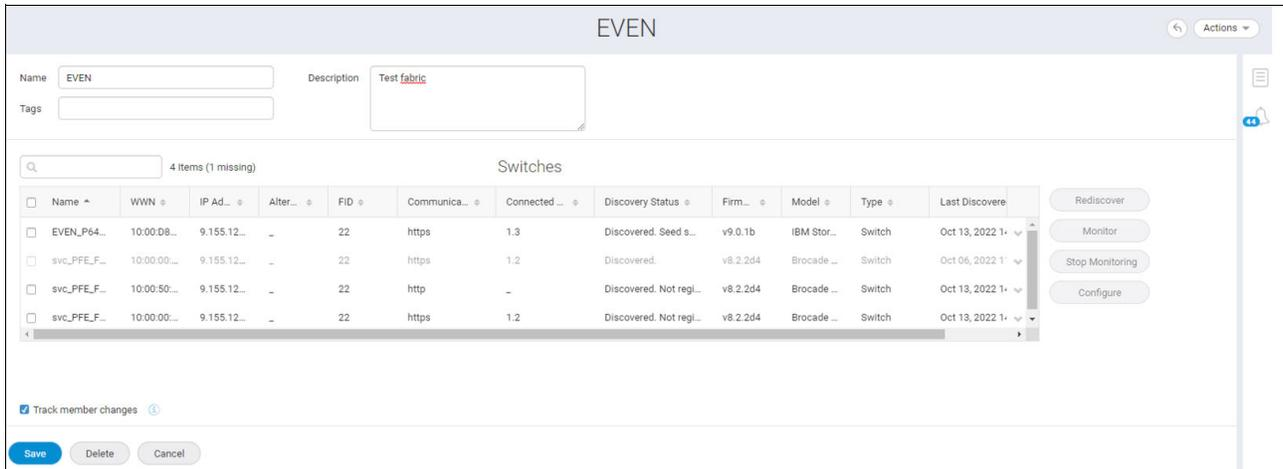

Figure 4-15 Detail window
9. Click the fabric name to open the detail window, where you can change the fabric name, add tags, and view a list of switches in the fabric, as shown in Figure 4-15 on page 73. If a switch name is disabled, the switch is physically disconnected from the fabric. SANnav maintains this information for tracking purposes.